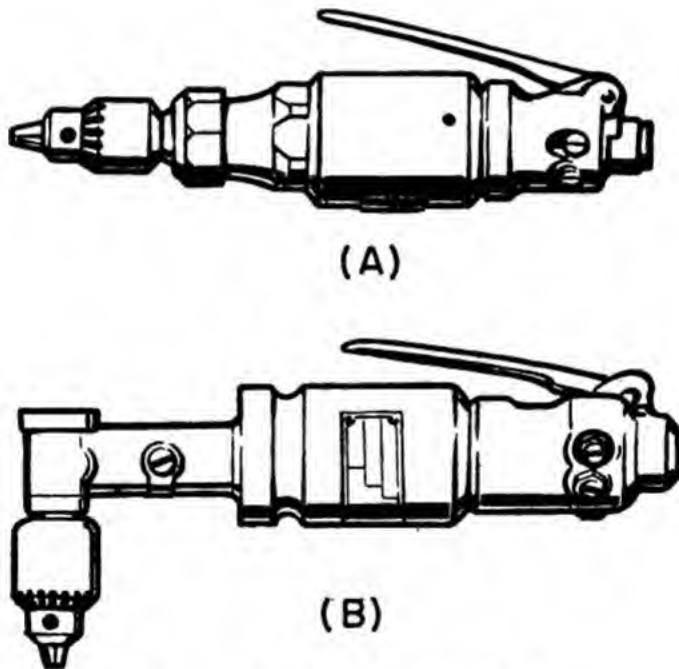

Figure 34.—Pneumatic drills.
the throttle to vary the input of air. Thus you can start the drill bit at a slow speed until the hole is well under way, then speed it up. You can also stop the rotation of the drill bit more quickly with a pneumatic drill. This advantage saves you considerable time if you have to drill a lot of holes in quick succession. Pneumatic drills are available in the straight (A) and angle (B) shapes shown in figure 34.